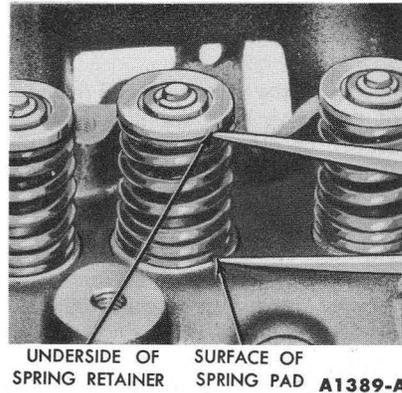

FIG. 48—Valve Spring Assembled Height
5. Measure the assembled height of the valve spring from the surface of the cylinder head spring pad to the underside of the spring retainer with dividers (Fig. 48).